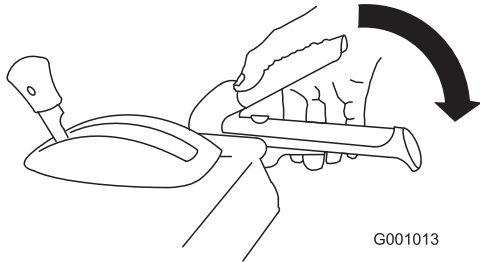

Figure 30
1. To engage the auger/impeller drive, squeeze the right (auger/impeller) lever to the handgrip (Figure 30).